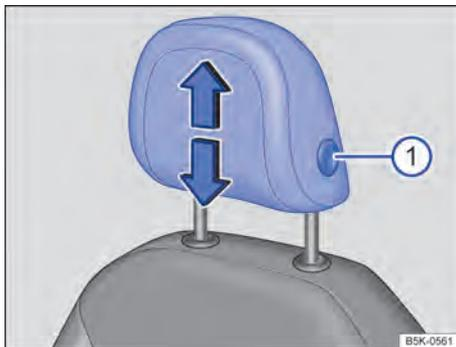
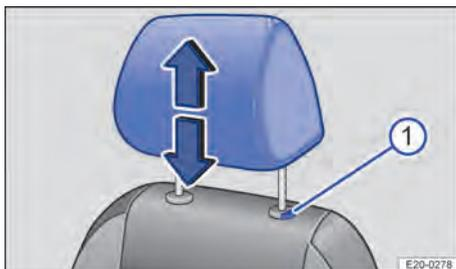

Fig. 73 On the front seat: Adjusting head restraints (variant 1).
Fig. 74 On the front seat: Adjusting head restraints (variant 2).
1. Push the head restraint up or down while pressing and holding the button → Fig. 73 **①** or → Fig. 74 **①**.